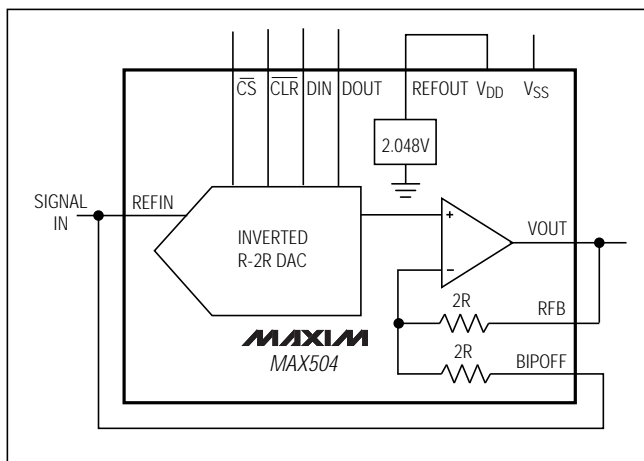

Figure 9. MAX504 Connected as Four-Quadrant Multiplier. The unused REFOUT is connected to VDD.
The MAX504 can be used as a four-quadrant multiplier by connecting BIPOFF to REFOUT and RFB to VOUT, and using (1) an offset binary digital code, (2) bipolar power supplies, and (3) a bipolar analog input at REFOUT within the range $V_{SS} + 2\text{V}$ to $V_{DD} - 2\text{V}$, as shown in Figure 9.